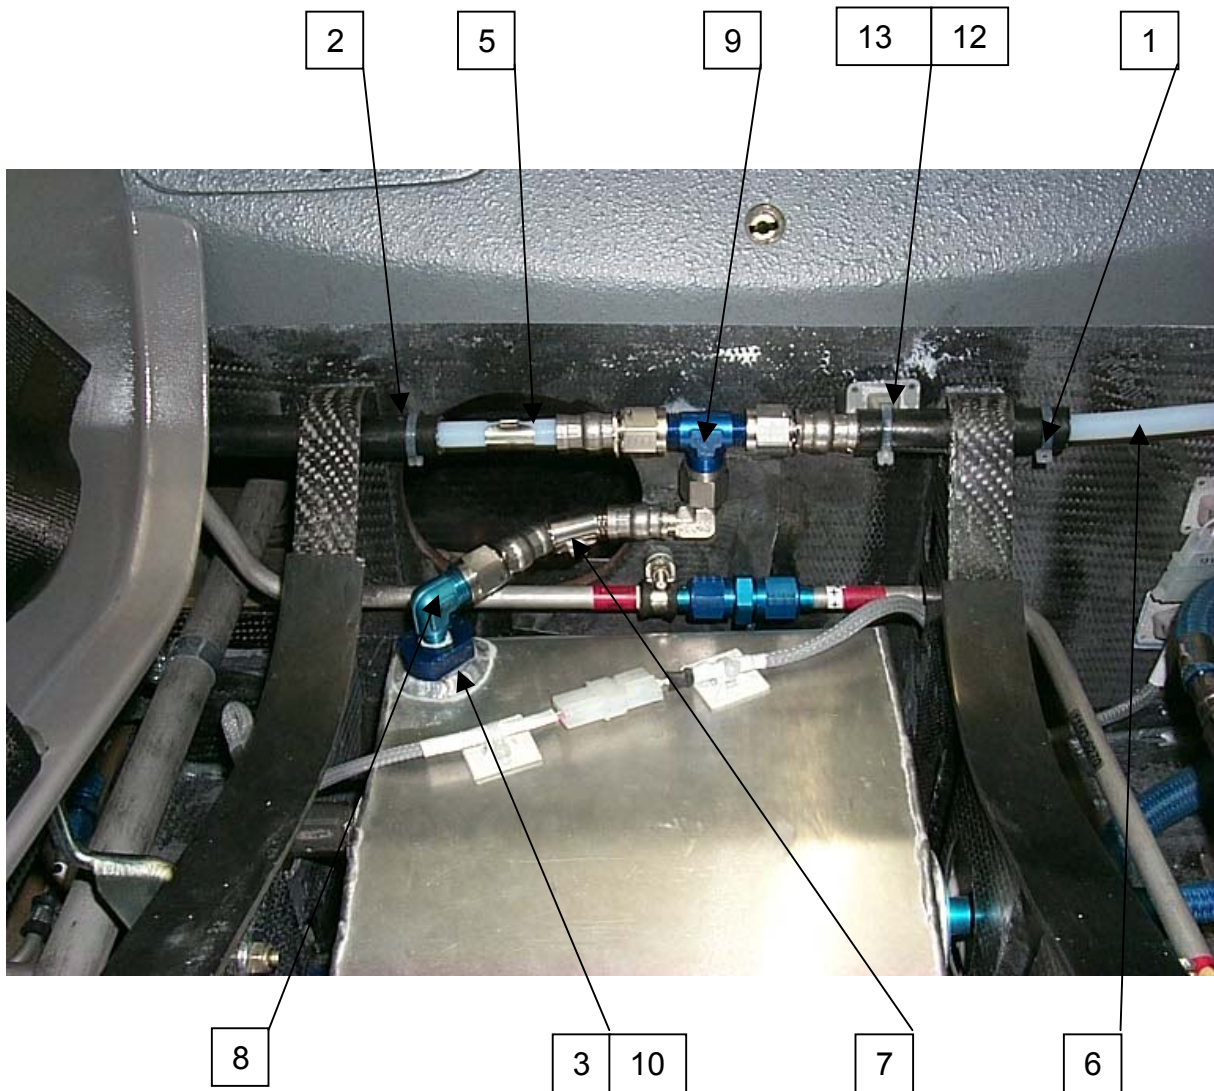
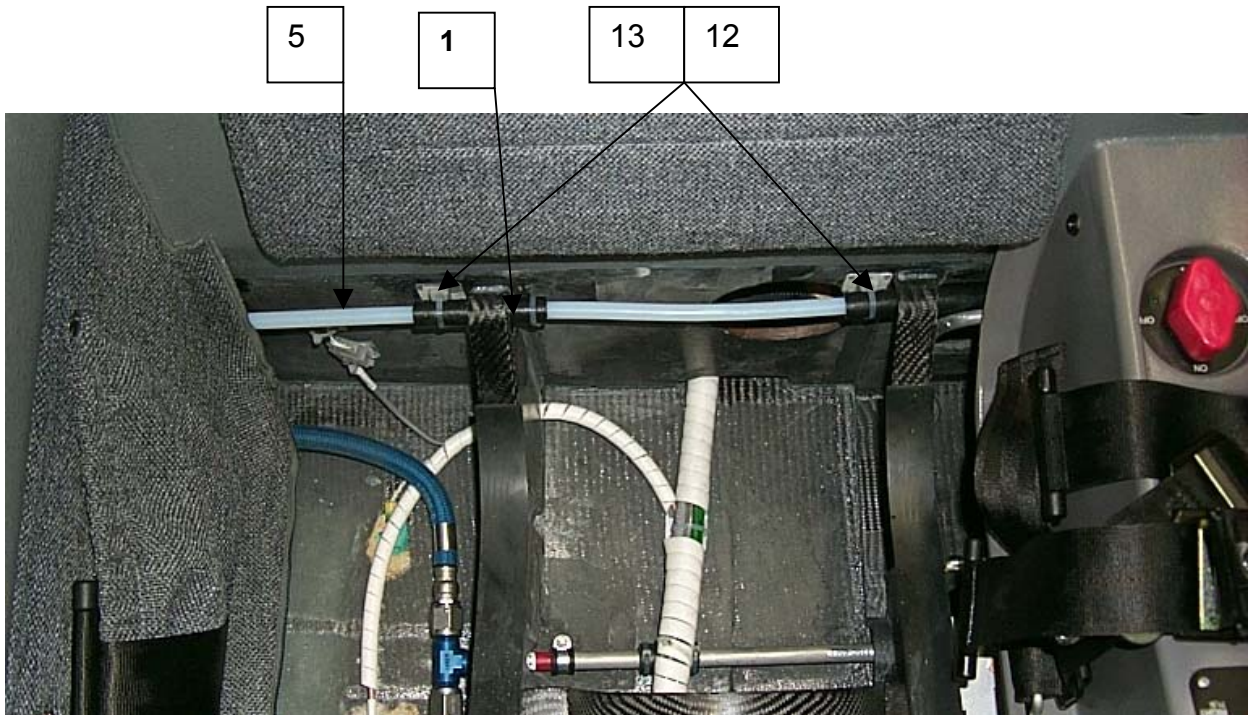
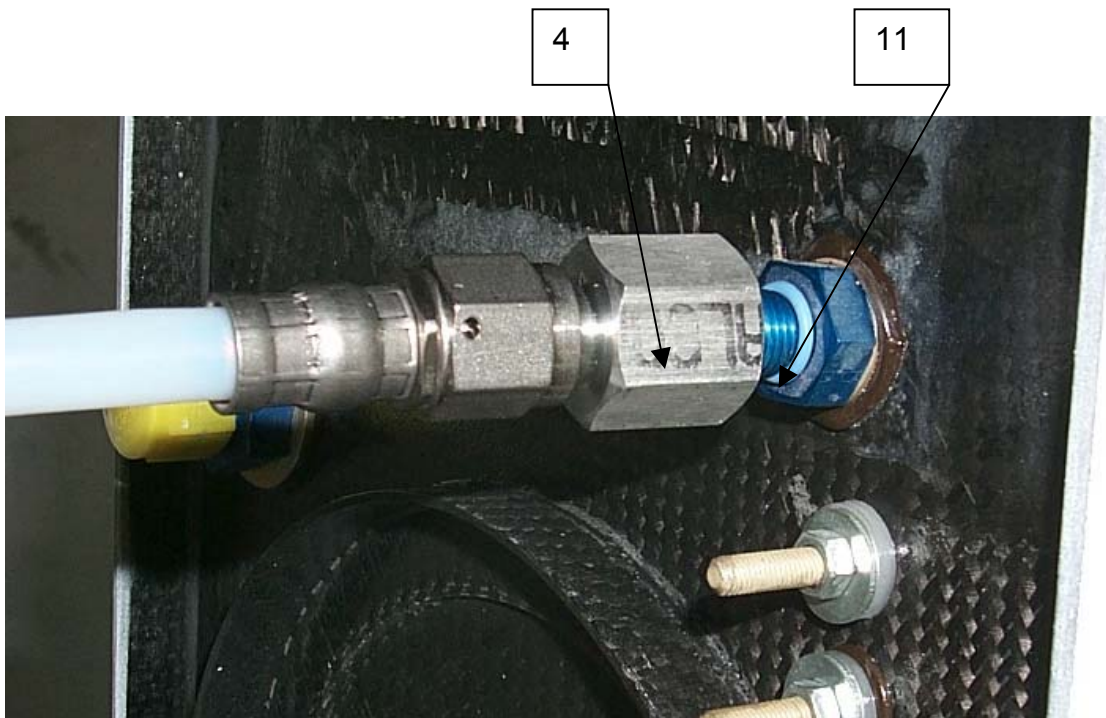

Fig. 5
Fig 6
Fig. 7
- clean and degrease clamps (13)
- install new collector tank vent valve (3) and O-ring (10)
- bond fitting (8) with sealant (B) to a 45° position off either edge of the collector tank (as shown in Fig. 5)
- install hose (7) to the collector tank valve/fitting (8)
- install T-piece fitting (9) to hose (7)
- install reduction fittings (4) and O-ring (11) in R/H and L/H root ribs as indicated in Fig.7
- preposition R/H fuel balance hose (5) as indicated in Fig. (5 and 6) with protective covers (1 and 2) also pre-positioned.
- Install R/H fuel balance (5) hose to R/H reduction fitting (4)
- preposition L/H fuel balance hose (6) as indicated in Fig. 5 with protective cover (1) also pre-positioned.
- Install L/H fuel balance (6) hose to L/H reduction fitting (4)
- Install both fuel balance hoses (5) and (6) to T-piece fitting (9)
- Preposition clamps (13) as indicated in Fig.5 and Fig.6.
- Ensure that both fuel balance hoses (5) and (6) are adjusted to a smooth, constant gradient from the root rib fitting (4) to the T-piece fitting (9). Possible fuel traps must be avoided.
- Bond clamps (13) to final position with adhesive (A). Let dry according to manufacturers specification.
- Secure fuel balancing hoses (5) and (6) on clamps (13) with Ty Raps (12)